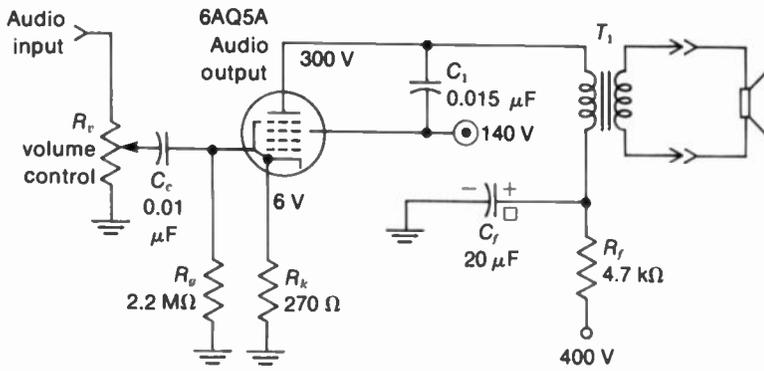

FIGURE 27-20 AUDIO OUTPUT TUBE TRANSFORMER-COUPLED TO LOUD-SPEAKER.
In receivers with vacuum tubes there is generally a quadrature-grid detector driving one audio output stage. This is a transformer-coupled to a  $3.2\text{-}\Omega$  loudspeaker (Fig. 27-20). With solid-state circuits, though, the ratio detector or discriminator is generally used. These FM detector circuits require an audio amplifier to drive the
**Audio output stage.** In Fig. 27-20 the audio input at the volume control is obtained from the plate circuit of a quadrature-grid detector.  $C_c$  and  $R_n$  provide the RC coupling. Cathode bias is produced by the 270-Ω  $R_k$ . This resistor is not bypassed, in order to degenerate the input signal. The degeneration, or negative feedback, reduces gain but also reduces distortion. Amplified output from the plate is coupled to the loudspeaker by the audio output transformer  $T_1$ . Its function is to match the low impedance of